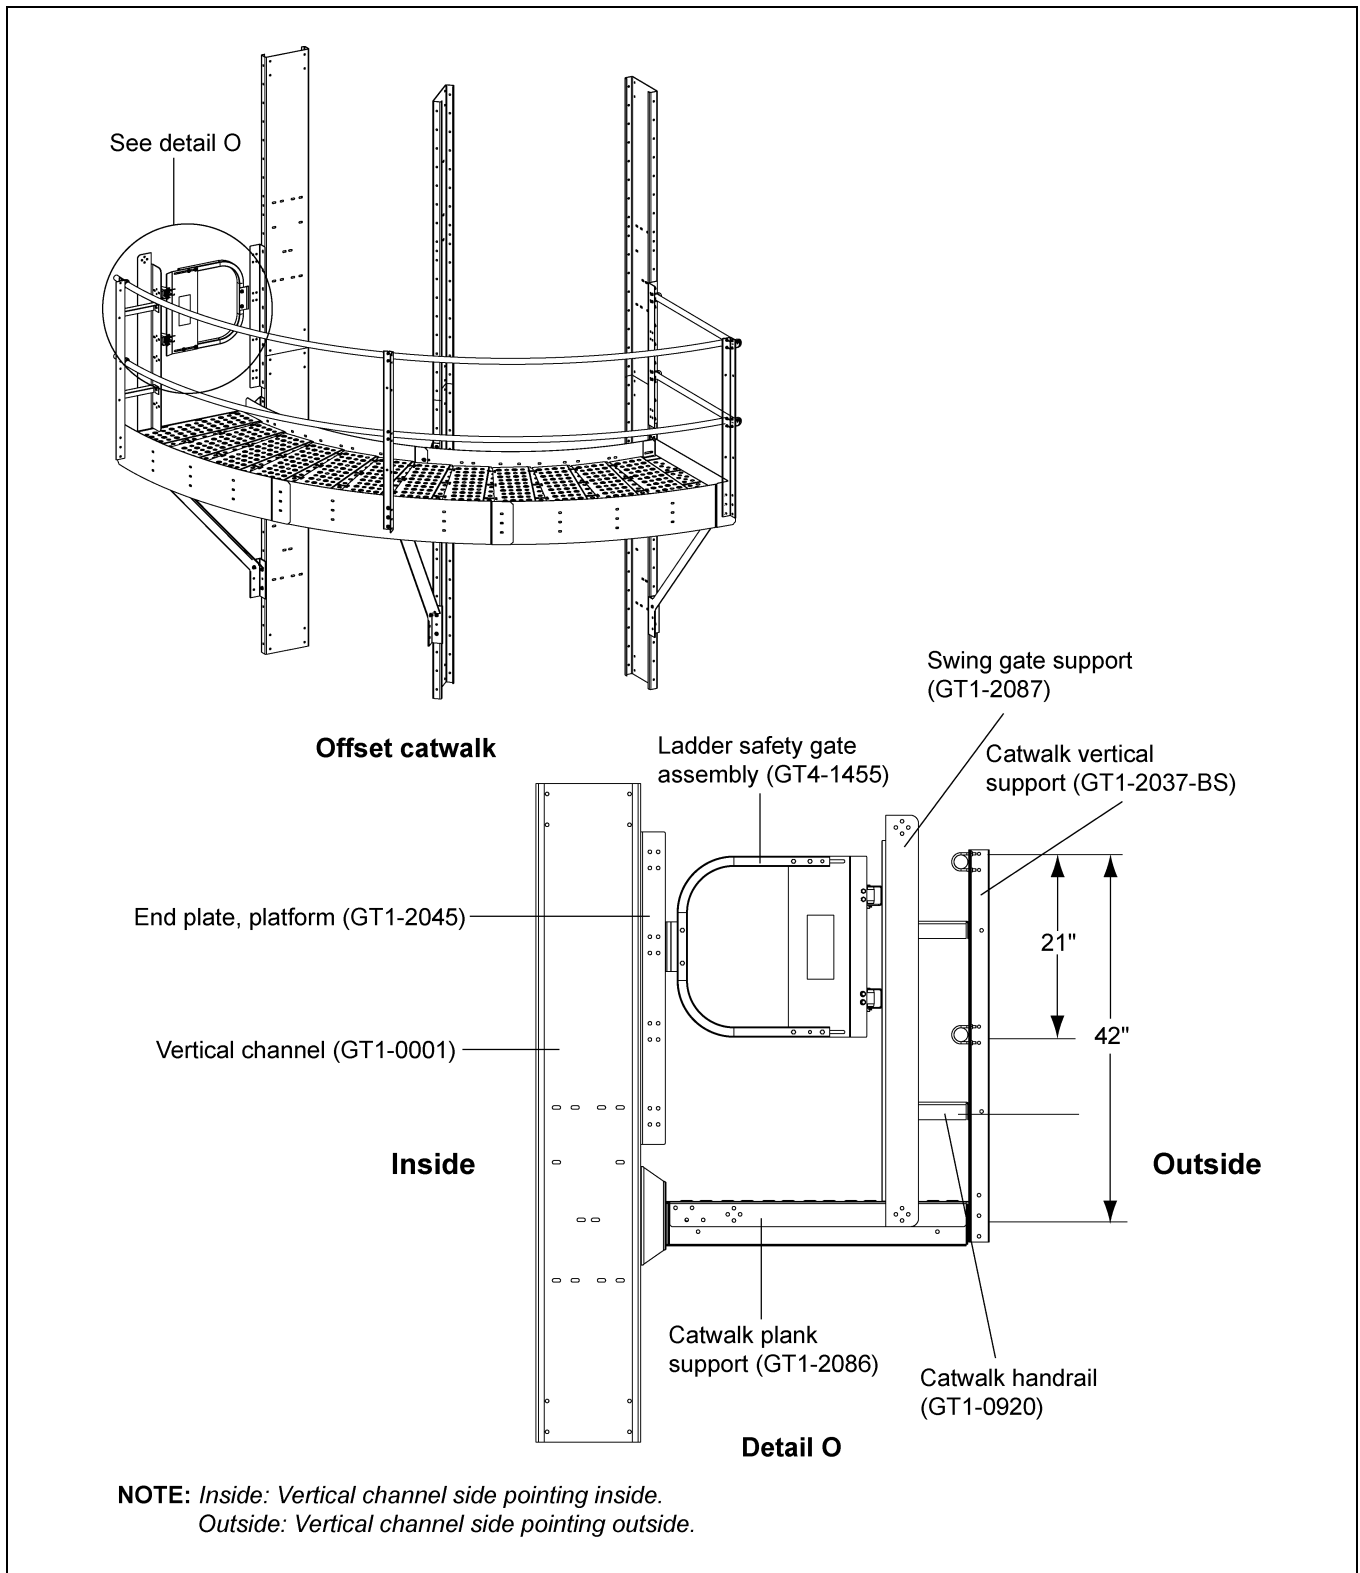

Figure 6Y Offset Ladder Safety Gate Assembly to Swing Gate Support (GT1-2087)
3. Install the ladder safety gate assembly (GT4-1455) to the swing gate support (GT1-2087) using 3/8"-16 x 1" YDP grade 8 or grade 8.2 bolts (S-7927) and 3/8"-16 ZN grade 5 nuts (S-968). The distance between the plank and handrail is 42". (See Figure 6Y below and Figure 6Z on Page 60.)